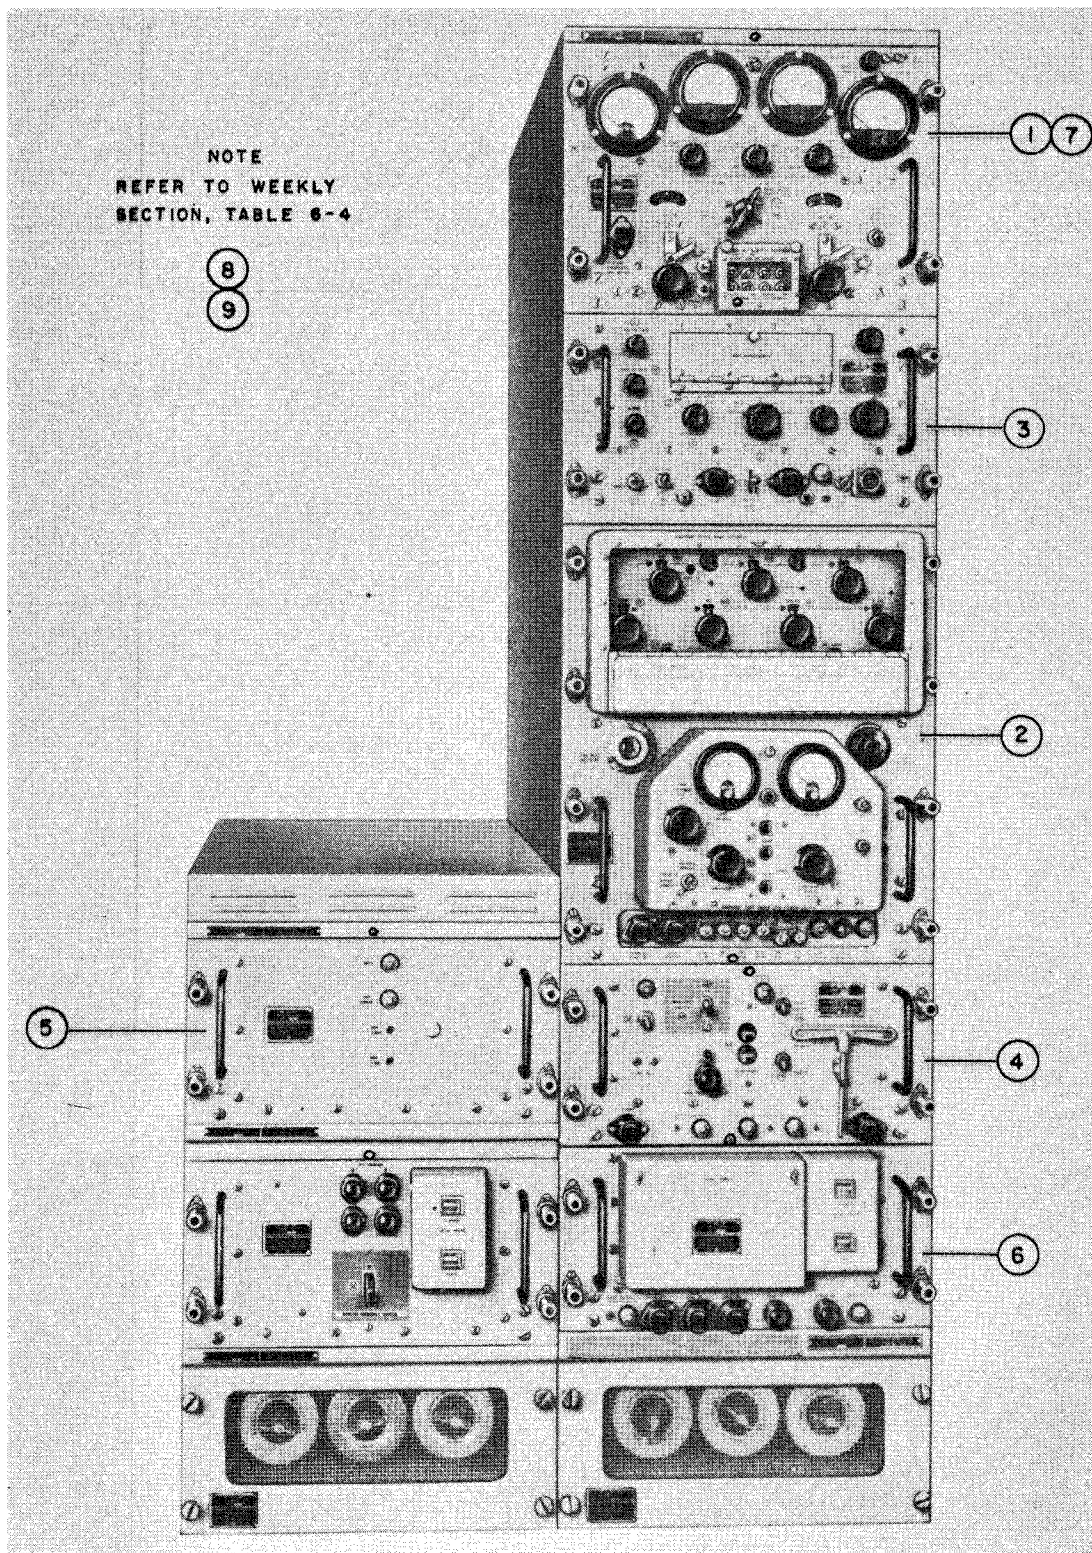

Figure 6-3. Weekly Routine Maintenance Checks, AN/SRT-15 Transmitter Bay
4. Power Supply PP-1094/SRT (LVPS)	(See 4, figure 6-3.) Check from test points to ground: a. +250 V b. +300 V c. -220 V
5. Radio Modulator MD-230/SRT (HLRM)	(See 5, figure 6-3.) Grid No. 1 - V-1601 Grid No. 1 - V-1602
6. Power Supply PP-1095/SRT (MVPS)	(See 6, figure 6-3.) CAUTION 500 V OUTPUT Check from test jack to ground.